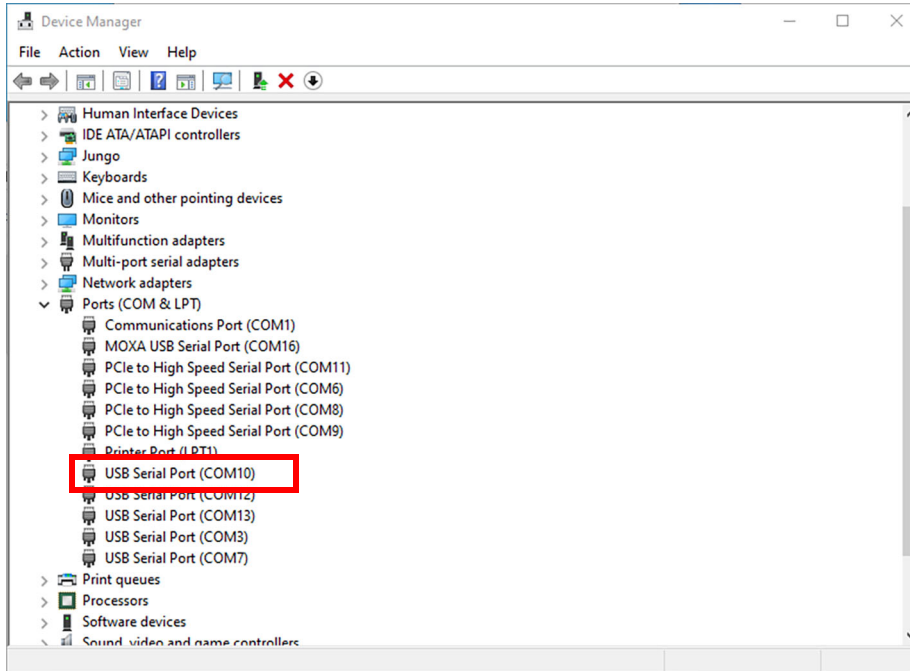

Figure 33 *Device Manager window*
2. Select the appropriate port (outlined in red in Figure 33) and double click on it to open the USB Serial Port Properties dialog.